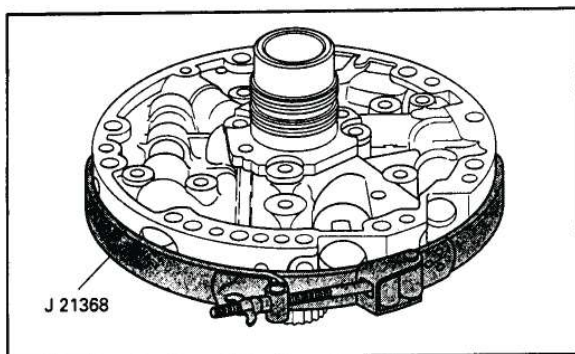

Figure 171
17. Install alignment tool J-21368 onto the oil pump assembly, as shown in Figure 171.